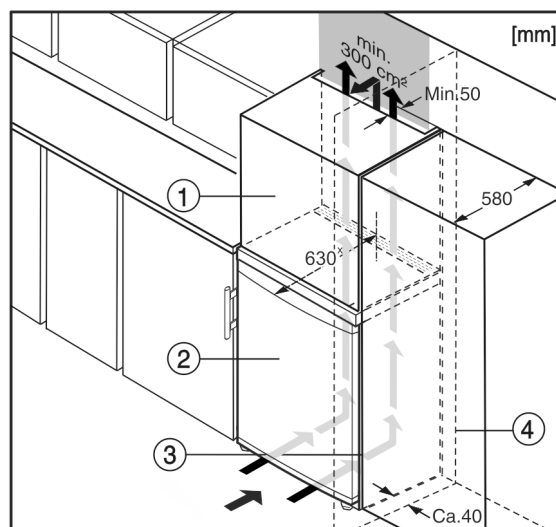

Fig. 10
- (1) Top cupboard*
- (2) Appliance*
- (3) Kitchen cabinet*
- (4) Wall*
The appliance can be built into kitchen units. A top cupboard Fig. 10 (2) can be added above the appliance in order to bring the appliance Fig. 10 (1) up to the height of the fitted kitchen units.
If you are integrating the appliance into a kitchen unit (max. depth 580 mm) you can install it right next to the kitchen cabinet Fig. 10 (3). The appliance measures 34 mm * at the side and 50 mm * at the centre in relation to the front of the kitchen cabinet.*
If you are installing the appliance with the hinges next to a wall Fig. 10 (4), the distance between the appliance and the wall must be at least 40 mm. This is how far the handle protrudes when the door is open.*